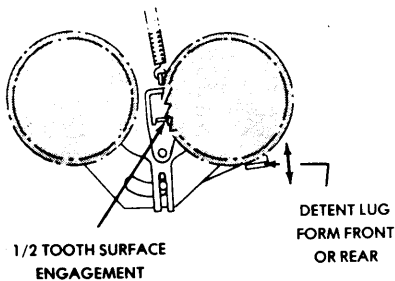

FIGURE 214. DETENT LUG (FRONT TO REAR)
- b. Form the detent lugs front to rear so that the ribbon feed pawl engages a ratchet tooth by approximately $1/2$ the depth of the ratchet tooth (Fig. 214).